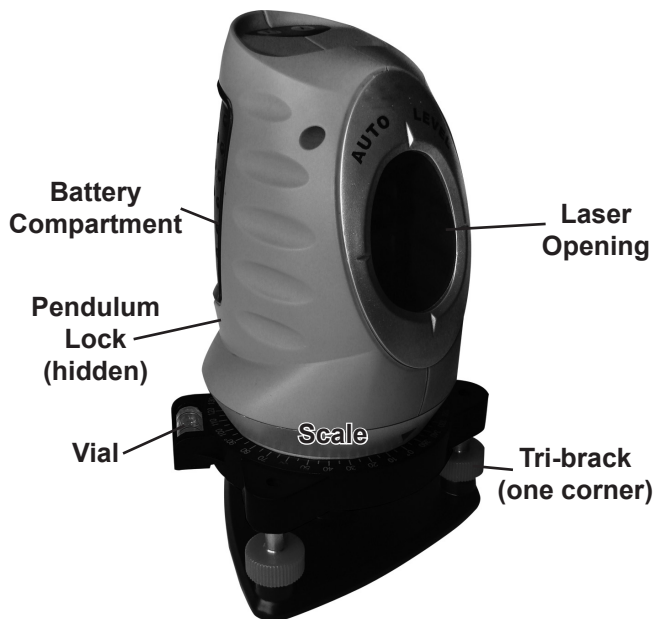

Figure 2
1. Remove the Battery Cover (see Figure 2 on page 4) and insert two new 'AA' Batteries. Follow the polarity symbols so that the positive and negative ends of the batteries match the diagram.